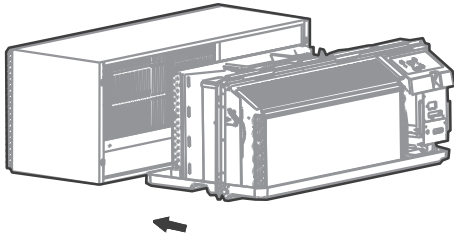
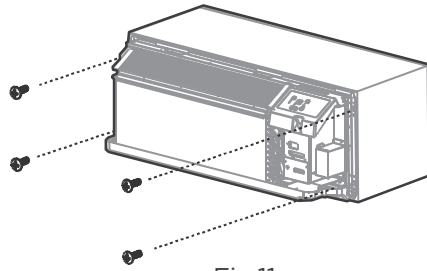

Fig.10
Fig.11
- Lift unit level and slide unit into wall sleeve until firmly against front of wall sleeve and secure with 4 screws and washers (supplied in the SLEEVE ASSEMBLY) through the unit flange holes. (See Fig.10 and Fig.11)